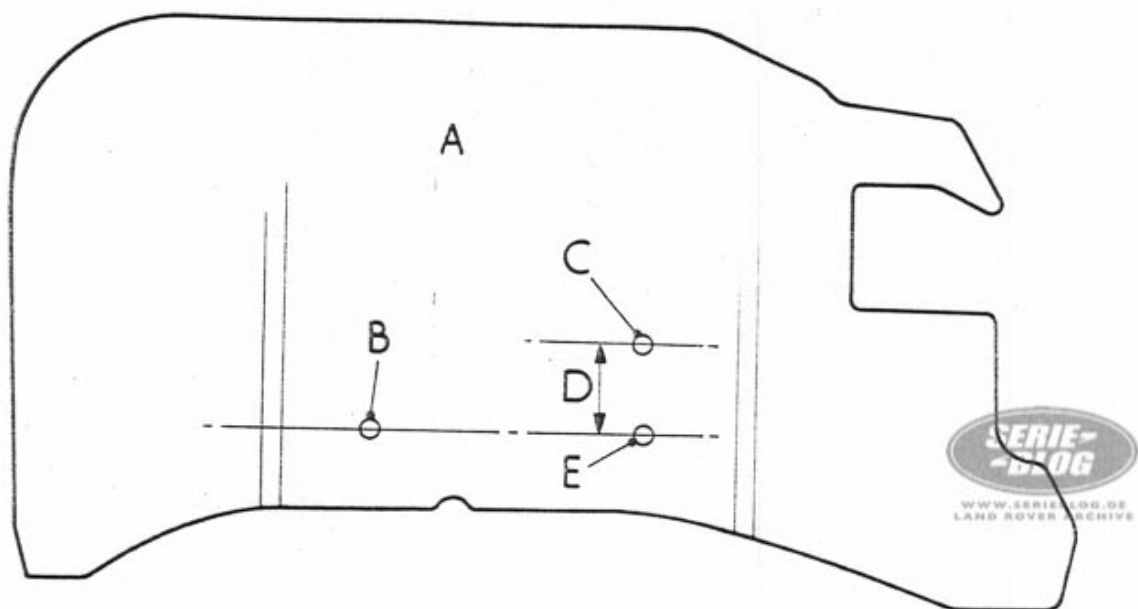

Fig.2. Drilling L.H. wing valance for bracket fixings.
3. Remove and discard the existing bottom panel fixings situated at hole 'E' in Fig.2.
4. Mark off the L.H. wing valance outer face as illustrated in Fig.2. and drill one hole 0.218 in (5,5 mm) diameter.